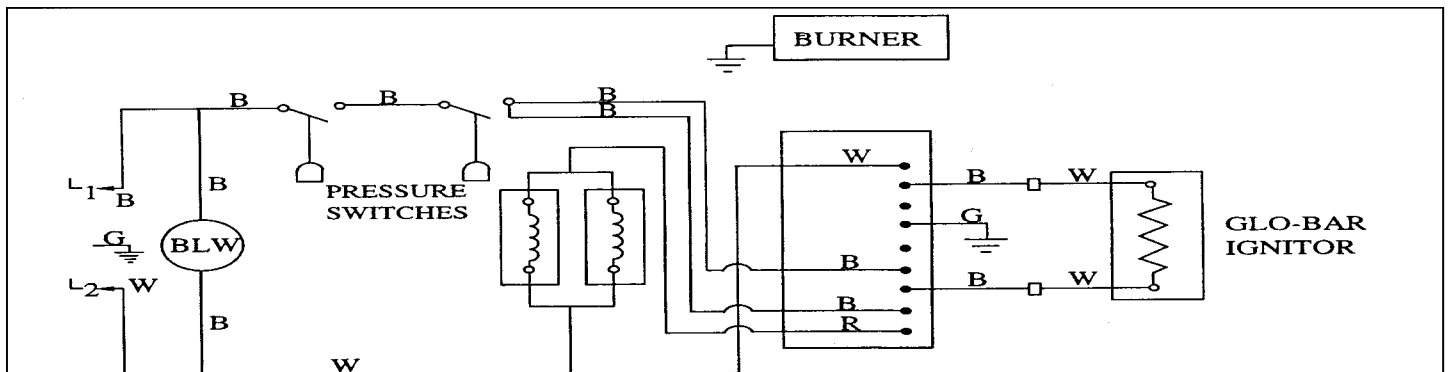

Figure 2-1: WIRING SCHEMATIC
- **Starting Circuit** (Figures 2-1 and 2-2)